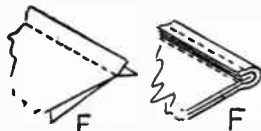

Fig. 3—Sewing the sections
Sew all eight sections together, as at (E), in Fig. 3, then double the  $\frac{1}{4}$  in. hems, as at (F) and sew through again. The thickness of the material, shown at (F) is, of course, grossly exaggerated, for clearness.